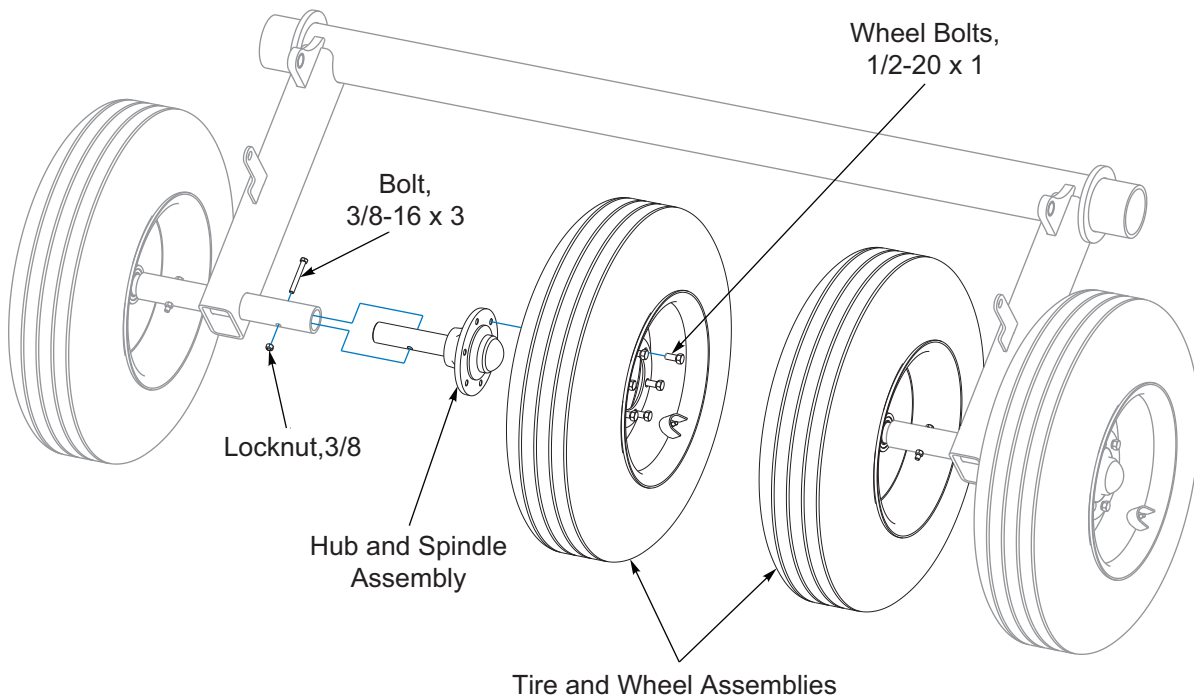

Figure 2-13: Dual Wheel Assembly
3. Install a Hub and Spindle Assembly into each Rockshaft Wheel Arm Sleeve. Secure with 3/8-16 x 3 Bolt and Locknut. **See Figure 2-13.**